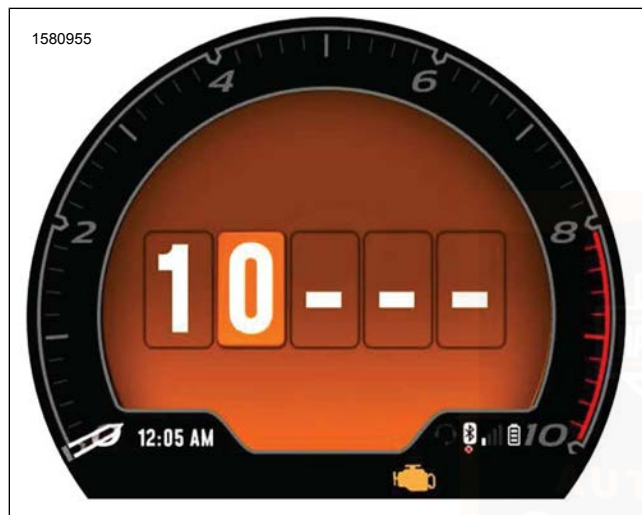
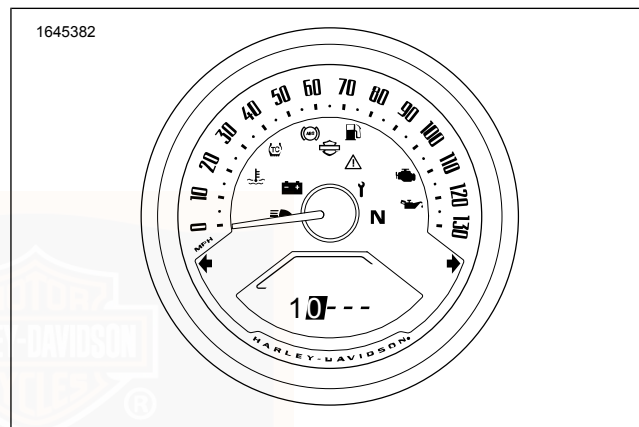

Figure 27. Moving Cursor to Next Digit (With Infotainment)
Figure 28. Moving Cursor to Next Digit (Without Infotainment)
2. See Figure 27 and Figure 28. Select the next digit.